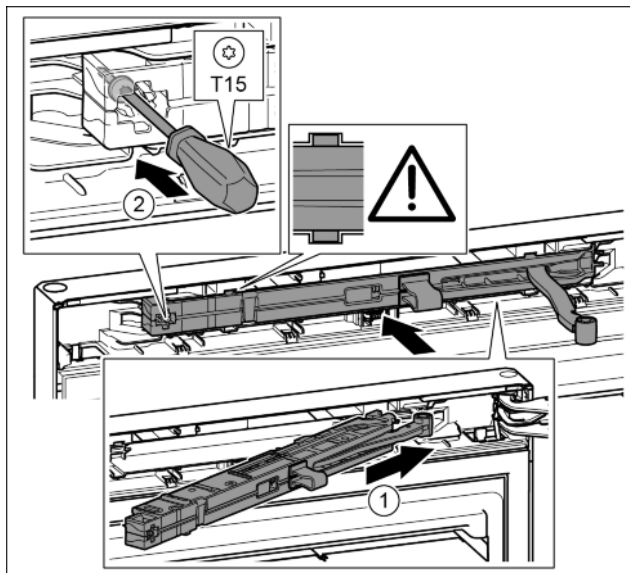

Fig. 24
- Slide the soft stop mechanism on the bearing bracket side at an angle into the slot as far as the limit stop. Fig. 24 (1)
- Tighten the screw with the T15 screwdriver. Fig. 24 (2)